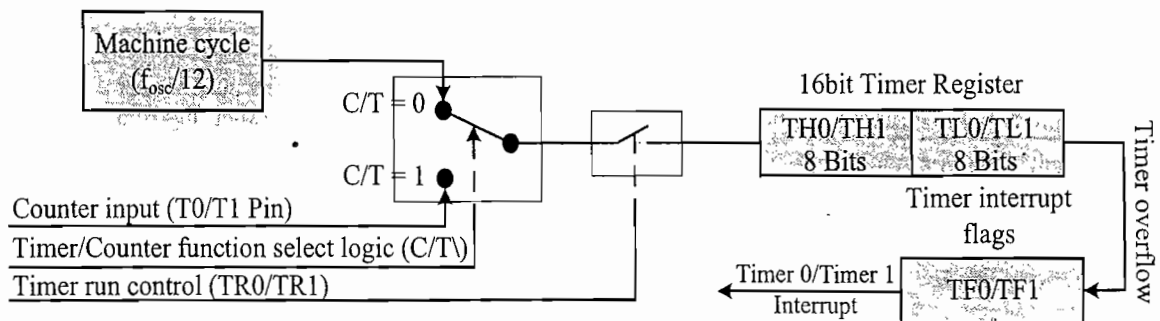

Fig. 5.28 Timer (Counter) 0/Timer (Counter) 1 in Mode 1
5.3.8.2 Timer/Counter in Mode 1 Mode 1 operation of Timer (Counter) 0/Timer (Counter) 1 is similar to that of mode 0 except the timer register size (Fig. 5.28). The timer register is 16bit wide in mode 1. The timer/counter mode selection is done by the bit C/T of the register TMOD. Timer (Counter) 0 and Timer (Counter) 1 has separate selection bits as described earlier. If Timer 0 is configured as a timer and if the corresponding run control bit for Timer 0 (TR0 in Timer Control Unit (TCON)) is set, registers TL0 and TH0 functions as 16bit register and starts incrementing from its current value. The timer register is incremented by one on each machine cycle. When the timer register rolls over from all 1s to all 0s (FFFFH to 0000H), the corresponding timer overflow flag TF0, present in TCON register is set. If Timer 0 interrupt is in the enabled state and no other conditions block the Timer 0 interrupt, Timer 0 interrupt is generated and is vectored to its corresponding vector address 000BH. On vectoring the interrupt, the TF0 flag is automatically cleared. Operation of Timer 1 in mode 1 is same as that of Timer 0 except that for Timer 1 the 16bit timer register is formed by the registers TL1 and TH1 and the corresponding Timer run control bit is TR1. The Timer 1 overflow flag is TF1 and the corresponding interrupt vector location for Timer 1 is 001BH.